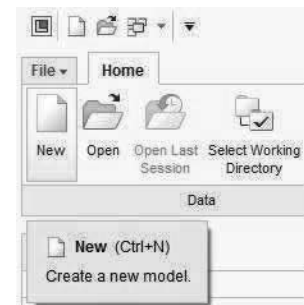

Figure 3-47 New Sketcher File
- Step 3:** Create a new sketch by *picking* the **New** icon at the top of the screen (Figure 3-47), or by *selecting* **File>New**.